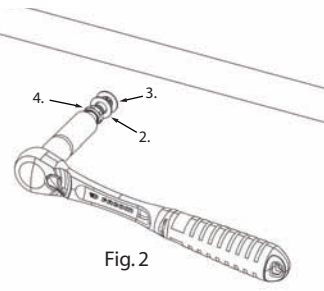

Fig. 2
3. YP-LED fittings are designed to be screwed into a kayak hull with a 5/8" socket wrench. There is no need to use a backing nut in most cases. (Fig. 2)
4. Use the rubber gasket between boat hull and nylon washer. (Fig. 2.) You may use silicone on the threads if concerned with the chance of leakage.